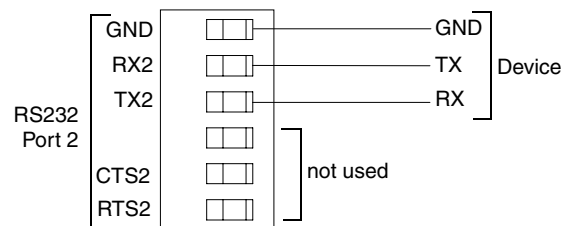

FIG. 5 RS-232 Port 2 wiring
2. Connect the RS-232 wiring to Port 2, as shown in FIG. 5.